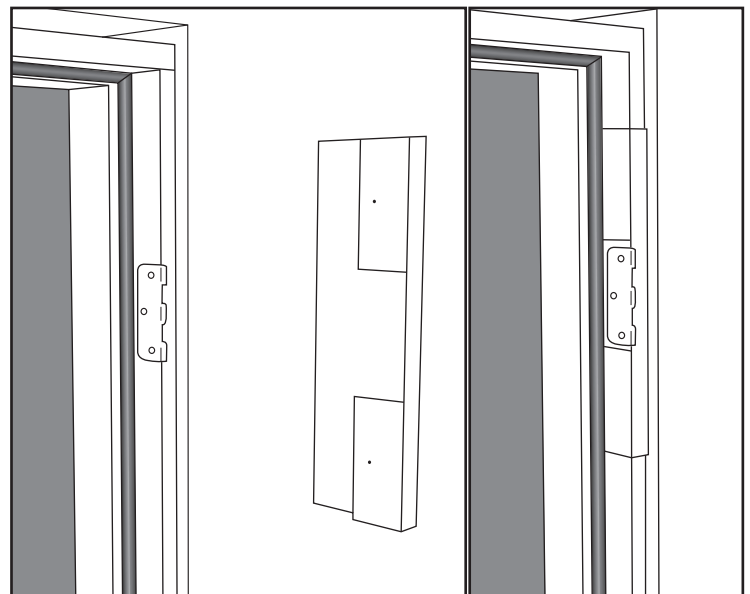

FIG. HS-02
3. Position the Hinge Shield so that the long leg will go between the door jamb and the rough frame (FIG. HS-02). The short leg will go on the inside of the door jamb with the opening allowing part of the leg to be positioned above and the other to go below the hinge. On the inside of the door jamb, the short leg of the Hinge Shield should fit securely against the door jamb and behind the weather stripping. Use one of the shims to hold the weather stripping out of the way while positioning the Hinge Shield. When placed properly, the edge of the short leg should be hidden by the weather stripping. (See note on FIG. HS-02.)